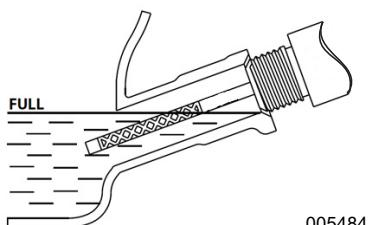

Figure 4-2. Safe Operating Range
5. To check oil level, insert dipstick into oil filler neck without screwing it in. See **Figure 4-2**.
- To check oil level, remove funnel and insert dipstick into oil filler neck without screwing it in. See **Figure 4-2**.